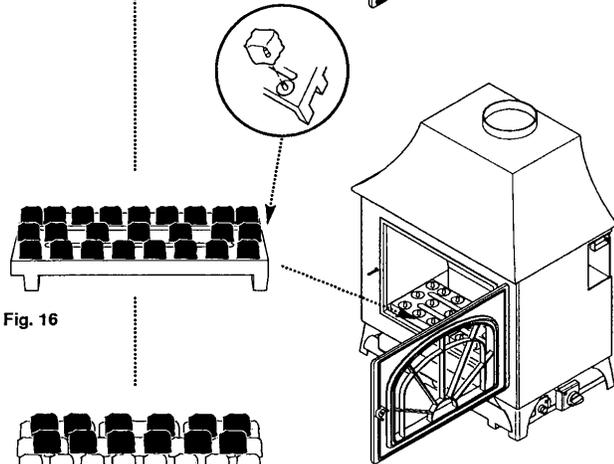

Fig. 16
3. Take the 24 small coals and locate them on the pegs on the ceramic base (Fig. 16).